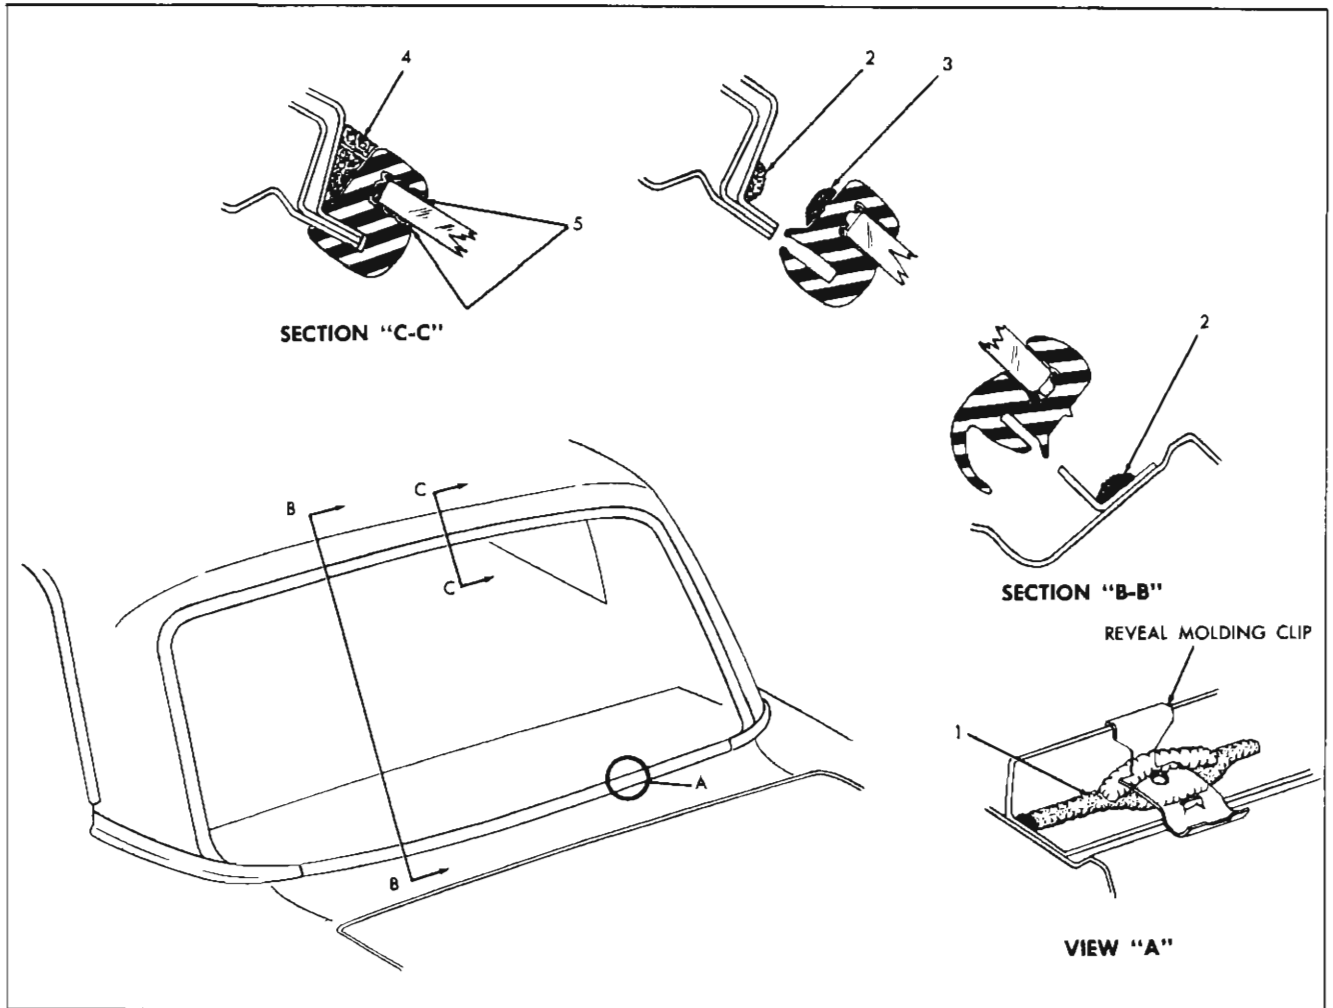

Fig. 82—Back Window Sealing
2. Check installation of reveal molding clips at pinchweld and retaining flanges and replace clips, where necessary. If replacing clips, apply medium-bodied sealer to opening rabbet, prior to installing clips (see "1" in View "A" Figure 82).
3. Apply a continuous $\frac{3}{16}$ " diameter ribbon of medium-bodied sealer on wall of rabbet, completely around opening (see "2" in Section "B-B" Figure 82).
5. Apply a continuous ribbon of medium-bodied sealer (approximately $\frac{1}{2}$ inch wide by $\frac{1}{4}$ inch thick) to base of rubber channel across top and down sides (see "3" in Section "B-B" Figure 82).
8. Using a pressure-type applicator, apply sufficient medium-bodied sealer to completely fill any openings between rubber channel and body completely around rubber channel (see "4" in Section "C-C" Figure 82).
oiler) apply weatherstrip adhesive (black) between rubber channel and glass on inside and outside of glass around entire perimeter of glass (see "5" in Section "C-C" Figure 82). Application of adhesive should be continuous with no skips.